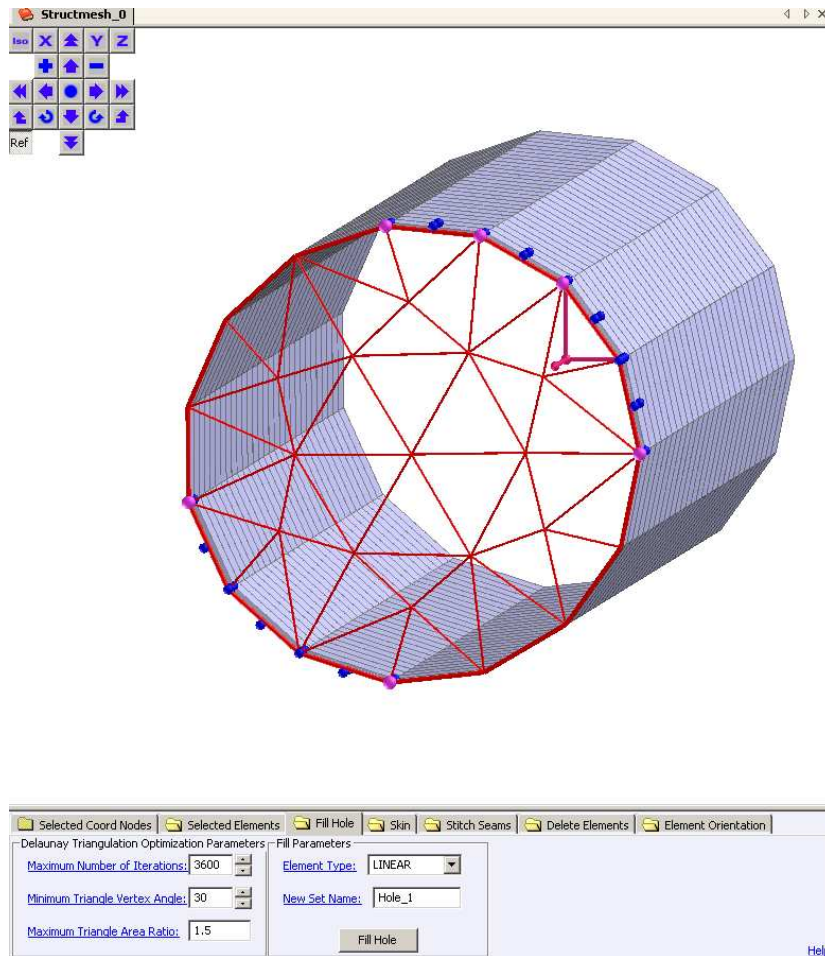
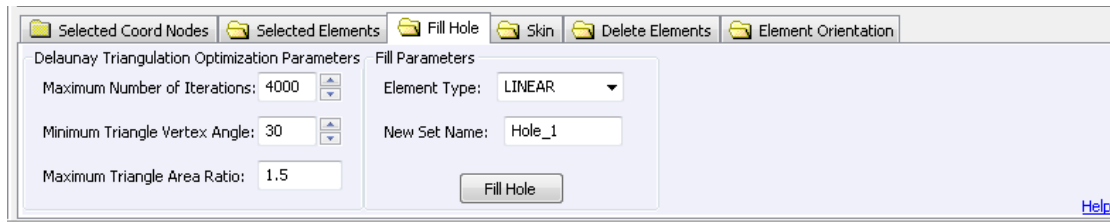

Figure 5.16: Coustyx GUI - Fill Hole.
Figure 5.17: Fill Hole Parameters.
The **Fill Hole** tabbed window is located at the bottom pane of the *Mesh Viewer* window (Figure 5.16). *Coustyx* uses an *Optimized Delaunay Triangulation Method* to fill holes. The parameters used are shown in Figure 5.17. First, we will explain each of the parameters in the Figure 5.17, and then discuss the procedure to fill a hole. (Figure 5.16)
The parameters used by the *Delaunay Triangulation* method can be modified here. The default set of parameters provided by *Coustyx* are sufficient for most of the cases. *Coustyx* goes through number of iterations to optimize the shapes of triangles in the hole while satisfying the limits defined by the parameters **Minimum Triangle Vertex Angle**, and **Maximum Triangle Area Ratio**. (Figure 5.17)
- Set the parameters for hole filling in the **Fill Hole** *tabbed* window. Refer to the Section 5.4.1 and Section 5.4.2 to set *Delaunay Triangulation Optimization Parameters* and *Fill Parameters* (Refer to Figure 5.17).
- The *Delaunay Triangulation* method requires at least three nodes to be identified on the edge of the hole to auto-fill the hole with triangle elements. (Refer to Figure 5.16)
- Accept the triangulation of the hole by pressing **Fill Hole** → **Fill Hole** button at the bottom of the window. (Refer to Figure 5.17)